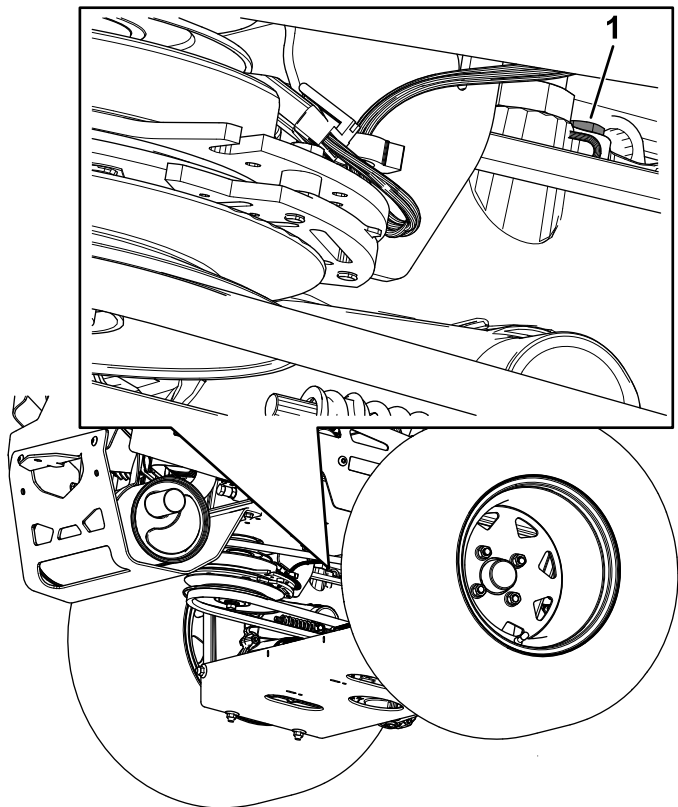

Figure 88
- **For ZT 5400 Hydros**, use a 7/16-inch wrench to access the vent plug from underneath the machine (Figure 88).